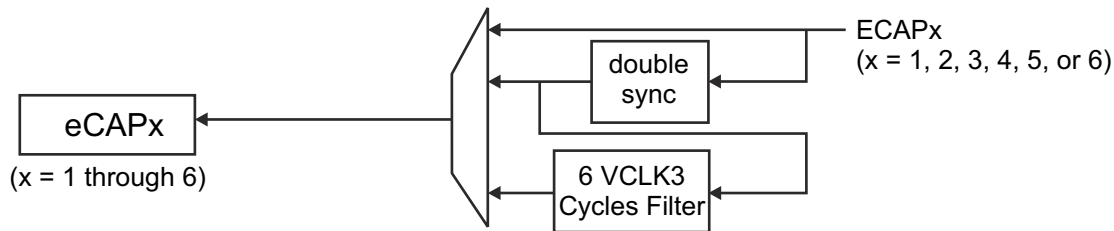

图 8-6. eCAPx Input Synchronization Selection Detail
A. For more detail on the eCAPx input synchronization selection, see 图 8-6.
图 8-6 shows the detailed input synchronization selection (asynchronous, double-synchronous, or double synchronous + filter width) for eCAPx.